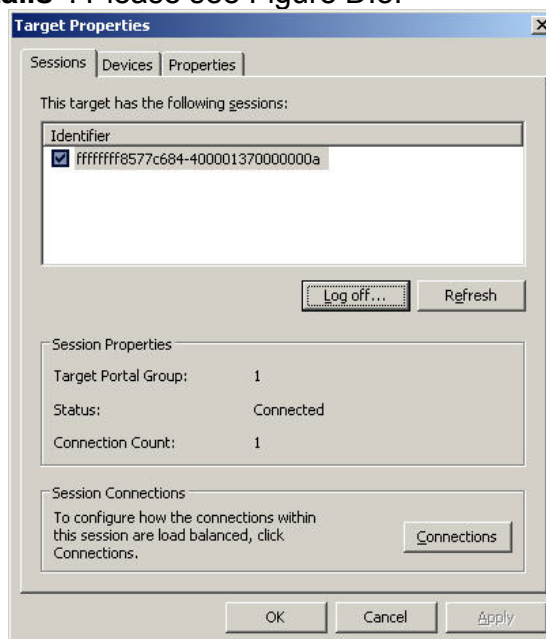

Figure D.8
A. Click “**Details**”. Please see Figure D.8.